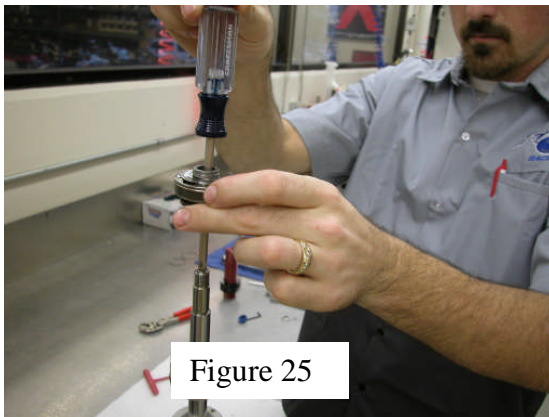
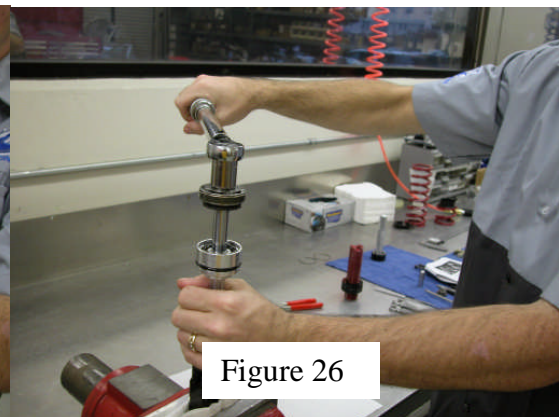

Figure 25
Figure 26
40. Hold the piston assembly from underneath the top-out plate and insert the end of the screwdriver into the shock shaft. **(Figure 25)** Slide the piston assembly onto the shaft end. Check to make sure ensure the piston assembly is properly seated, and install the piston lock nut. Torque the nut to 25ft/lbs. **(Figure 26)**